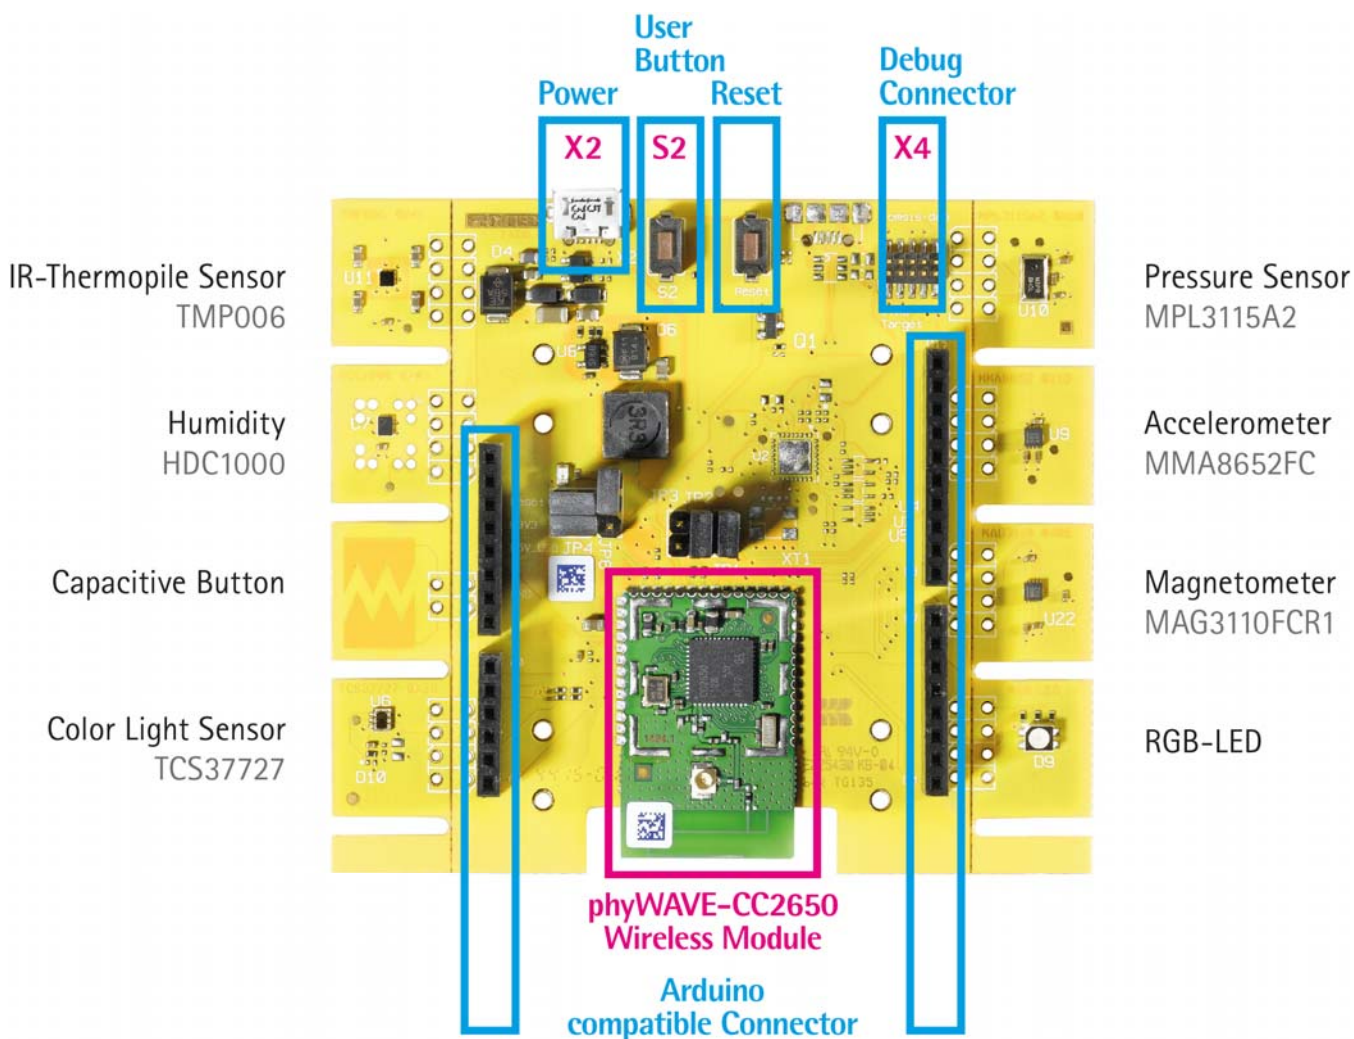
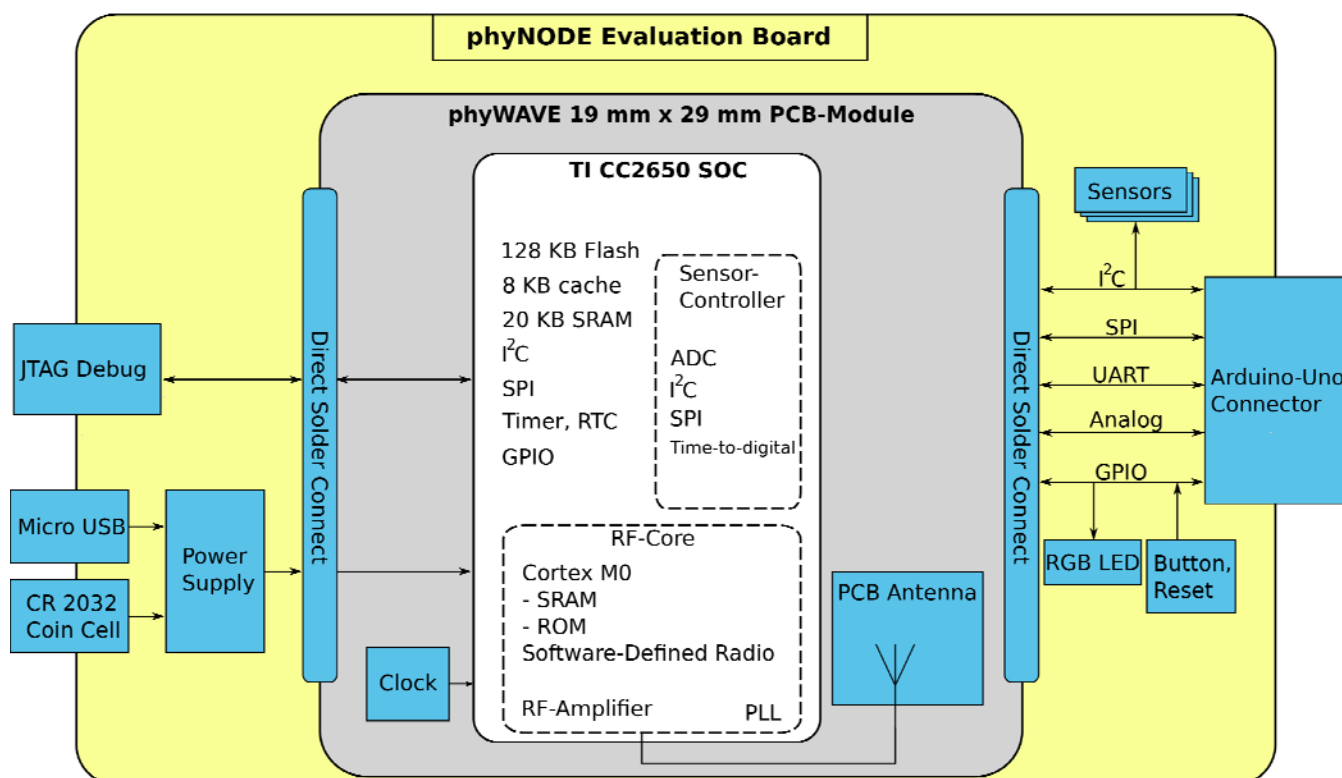

Figure 1: View of the phyNODE with phyWAVE-CC2650 mounted (top view)
Figure 3: Block Diagram of the phyNODE with attached phyWAVE-CC2650 SoC
The phyNODE (*Figure 1*) is equipped with different sensors to perceive environmental data such as temperature and humidity, as well as with user I/Os like LEDs and buttons. It serves as platform for different wireless communication modules which can be mounted via DSC (Direct Solder Connection). Hence, the phyNODE allows to test the communication with it's sensors with different protocols depending on the phyWAVE mounted. *Figure 3* gives a more detailed overview of the internal structure of the phyNODE.
The phyWAVE Wireless Communication Module is a 19 mm x 29 mm PCB which allows to fetch and process sensor values and to serve as wireless link for the sensors of the phyNODE, or a custom board. It provides a DSC (Direct Solder Connector) with 40 connections to mount it to a sensor board. Depending on the controller installed different transmission protocols are possible. The phyWAVE module used in the IoT-Enablement-Kit 2 is equipped with a Texas Instruments (TI) CC2650 SimpleLink™ Multistandard Wireless MCU, precise clock sources, an integrated PCB antenna, and an U.FL RF connector to attach an external antenna. The CC2650 integrates a Cortex-M3 microprocessor, Flash, RAM, hardware implemented interfaces such as I²C or SPI and an RF-backend for wireless communication. It can be programmed to operate with either Bluetooth Low Energy (BLE) or IEEE 802.15.4 wireless communication standards within the 2.5 GHz ISM band. This manual focuses on the BLE operation of the SoC. The grey area of Figure 3 gives a more detailed overview of the structure of the phyWAVE module.